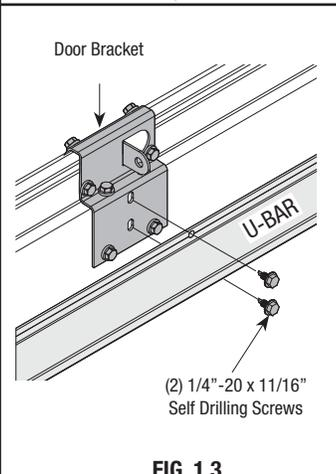

FIG. 1.3
Attach the door bracket using 1/4" - 14 x 5/8" self tapping screws as shown in FIG 1.4. Re-attach the u-bar using (2) 1/4" - 20 x 11/16" self drilling screws through the door bracket as shown in FIG 1.3. Finish re-attaching the u-bar using the self tapping screws removed previously.